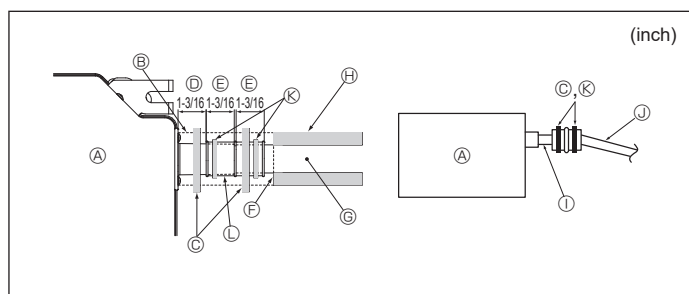

Fig. 3-5
- ⑦ Air bleeder
- ⑧ Raised
- ⑨ Odor trap
- ⑩ O.D. $\phi 32$ mm (1-1/4 inch) PVC TUBE
- ⑪ Make it as large as possible
- ⑫ Indoor unit
- ⑬ Make the piping size large for grouped piping.
- ⑭ Downward slope (1/100 or more)
- ⑮ O.D. $\phi 38$ mm (1-1/2 inch) PVC TUBE for grouped piping. (9 mm (11/32 inch) or more insulation)
- ⑯ Up to 850 mm (33 inch)
1. Connect the drain socket (supplied with the unit) to the drain port. (Fig. 3-5) (Affix the tube using PVC adhesive then secure it with a band.)
- ① Unit
- ② Insulating material
- ③ Band (large)
- ④ Drain port (transparent)
- ⑤ Insertion margin
- ⑥ Matching